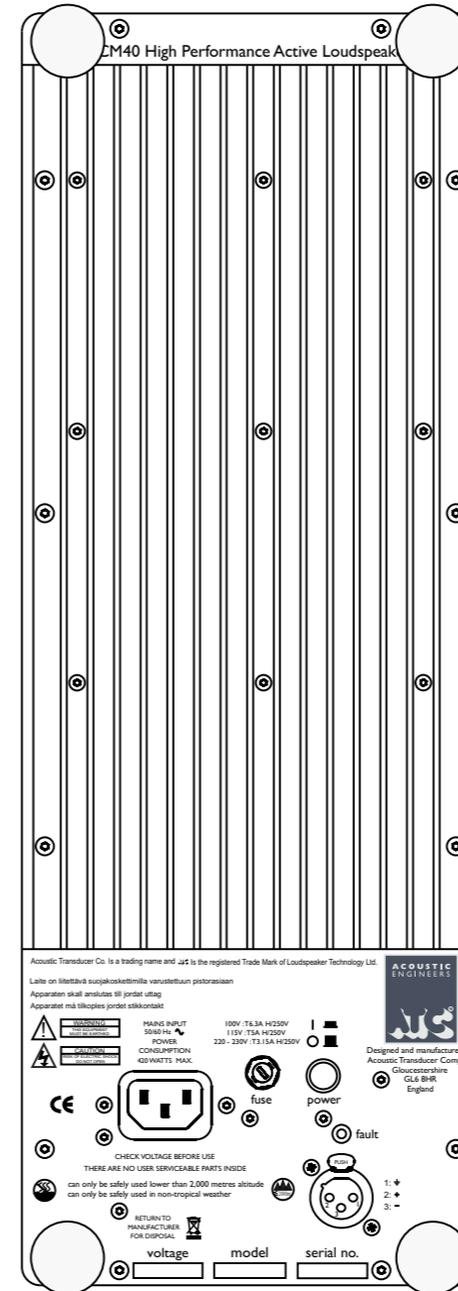

Fig. 6 SCM40A Connection and Control Panel
**Figs 6 and 7** illustrate the connection and control panel for the amplifiers used in the active SCM40A and 19A monitors. Each feature is described below: